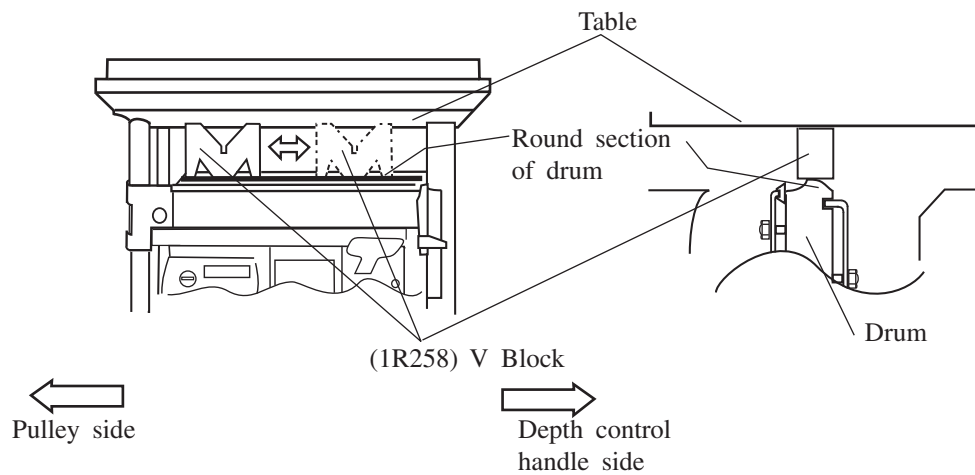

Fig.7
(See FIG.7)
(3) Insert V block between table and round section of drum and check the distance of drum's round section and table on left and right side. (See Fig.7)